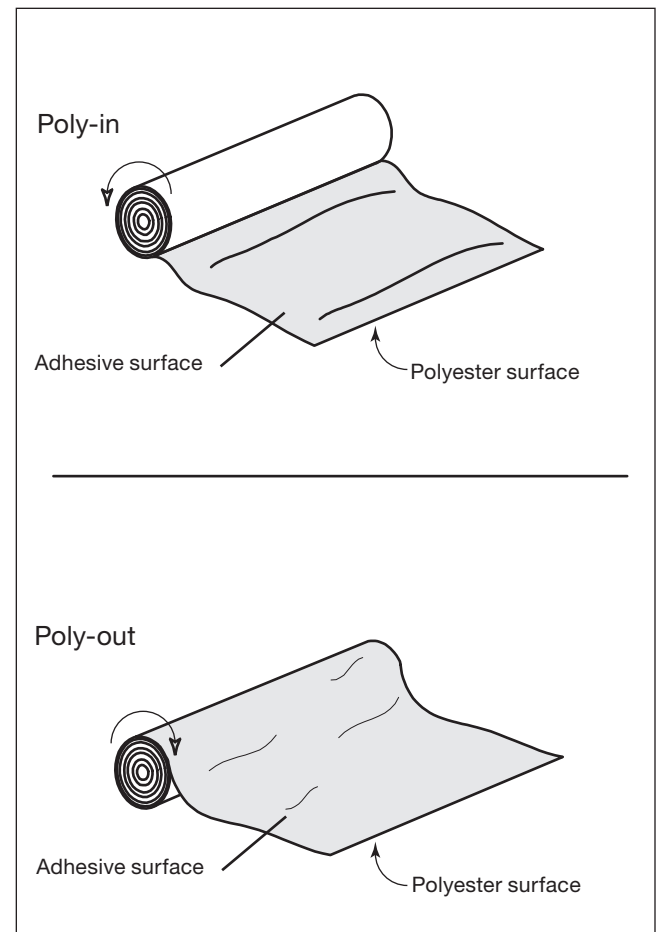

Fig. 6-4. Poly-in and Poly-out Films.
3. Slide the new roll on to the shaft and core adaptors. Refer to Fig. 6-4. *Poly-in and Poly-out Films* to determine how the film unwinds from the roll.